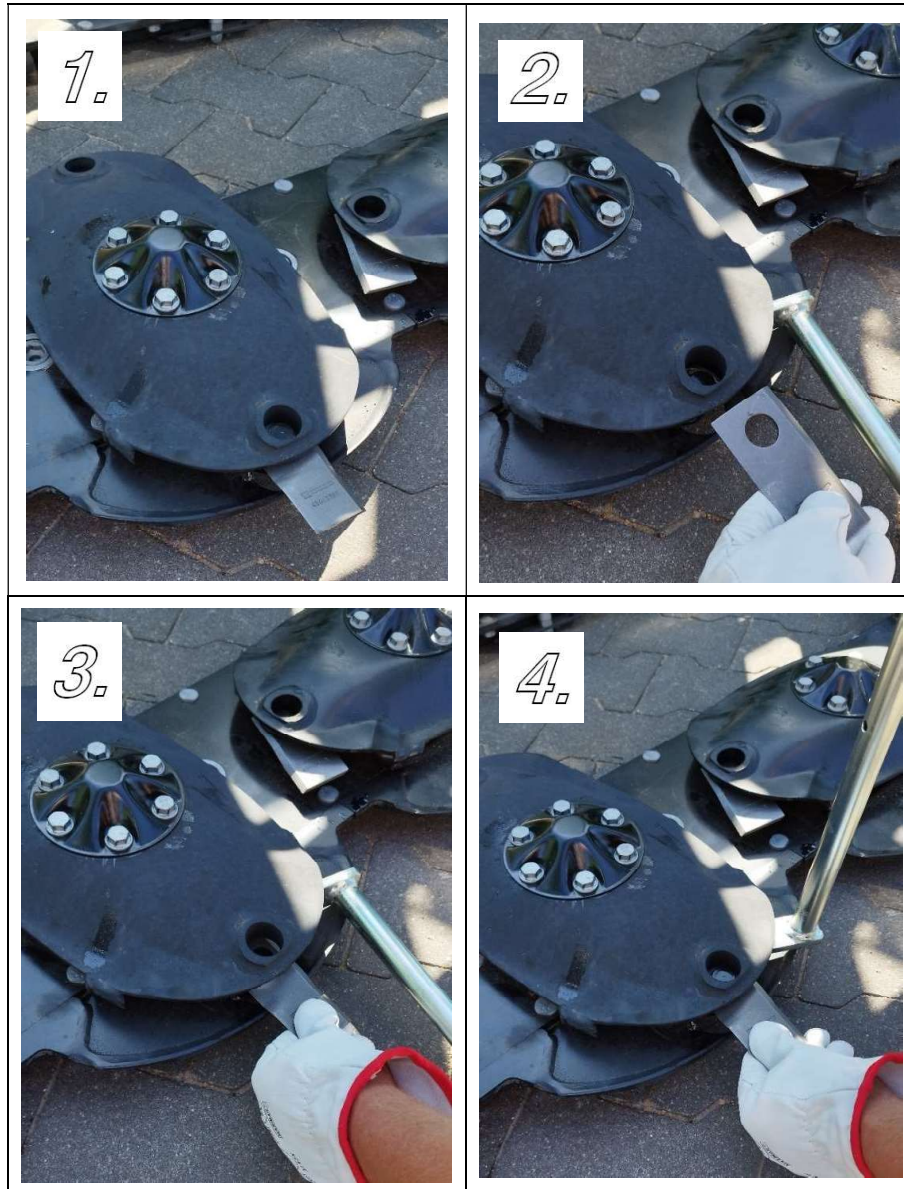

Fig.16 Checking, replacing and rotating the blade
Use the special tool, see Fig. 16, to replace or turn around a blade Insert the tool, (1) in Fig. 16, between the top disc and the blade holder, keep moving the holder until there is enough clearance to remove the blade, (2) in Fig. 16. After checking the blade, (3) in Fig.16, the shank
and the holder, see Fig.15, mount the blade, (4) in Fig. 16 by turning it around or replacing it with a new one.